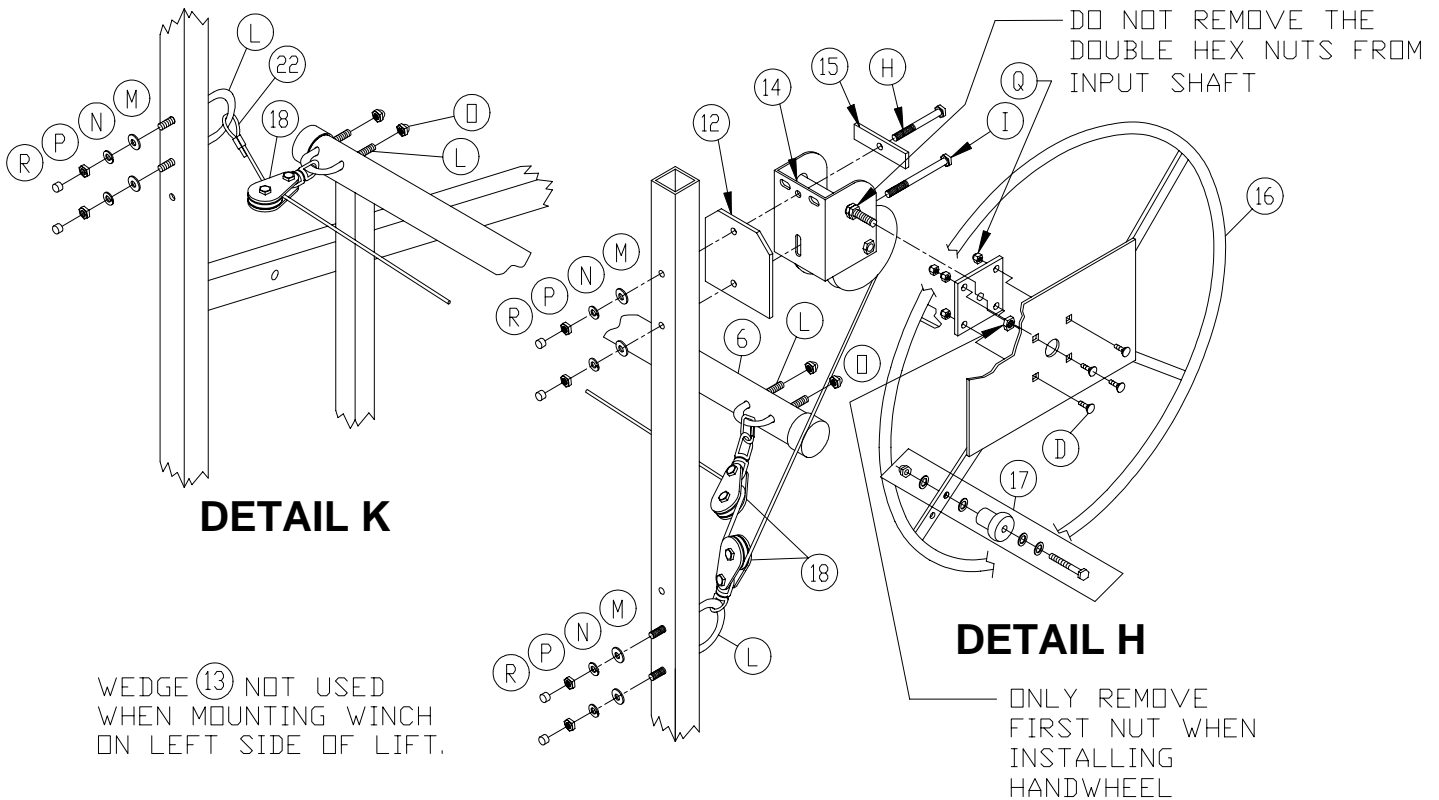
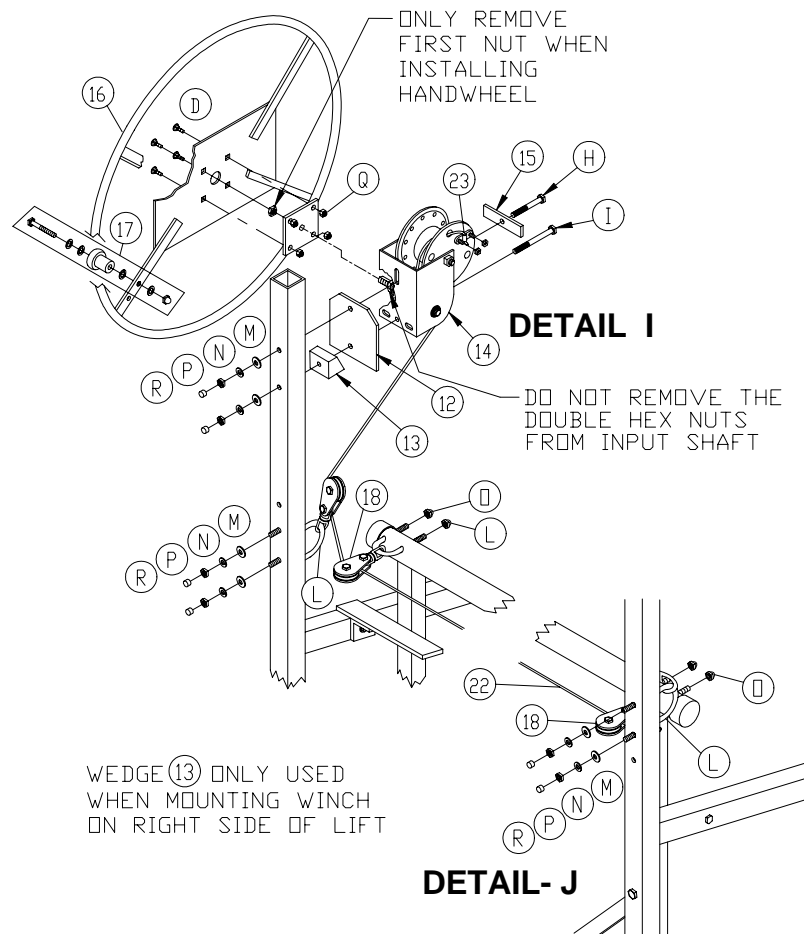

Figure 3-3.
Figure 3-4.
1. Making sure that input shaft is facing towards outside of lift, attach winch to bow end of left side frame assembly as shown in **Figure 3-3**.
1. Making sure that input shaft is facing towards outside of lift, attach winch to bow end of right side frame assembly as shown in **Figure 3-4**.
2. **Left Side Mounted Winch** - Refer to **Figure 3-3** and **Detail H**. Install polymer block on left-hand side assembly by inserting U-bolt through the swivel of the polymer block and attaching it to the side assembly through the lower set of mounting holes.
5. **Right Side Mounted Winch** – Refer to **Figure 3-4** and **Detail I**. Install polymer block on right-hand side assembly by inserting U-bolt through the swivel of the polymer block and attaching it to the side assembly through the lower set of mounting holes.
2. **Left Side Mounted Winch** – Refer to **Figure 3-3**. Feed the wire rope over the front of the drum, through hole in drum flange and under the wire rope clamp with one inch extending past the clamp as shown in **Detail I** of **Figure 3-4**. Tighten nuts on clamp to hold wire rope in place
3. **Right Side Mounted Winch** – Refer to **Figure 3-4**. Feed the wire rope into the winch between winch frame and backside of drum. Continue reeving wire rope over drum, through hole in drum flange and under the wire rope clamp with one inch extending past the clamp as shown in **Detail I**. Tighten nuts on clamp to hold wire rope in place.